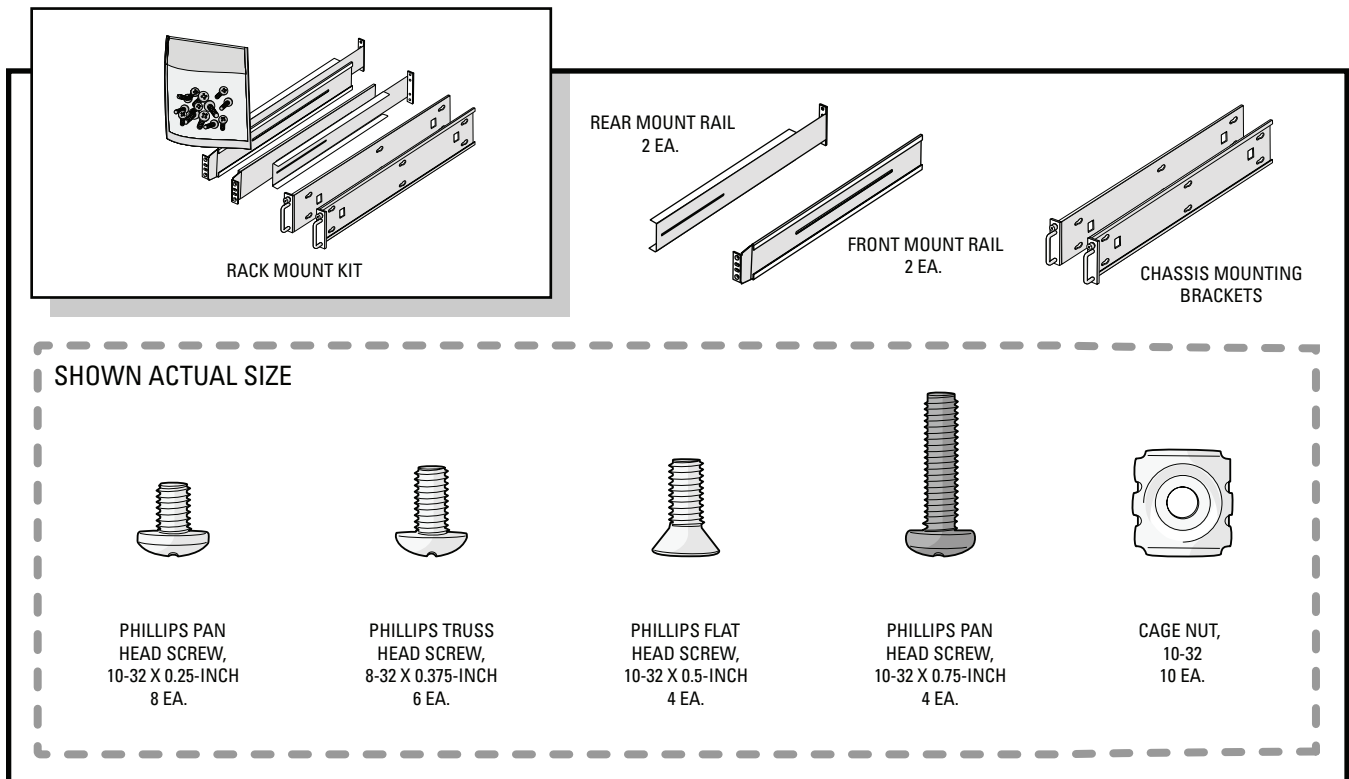

Figure 3. Rack Mount Kit
**NOTE:** Figure 3 identifies each piece of hardware for this procedure.